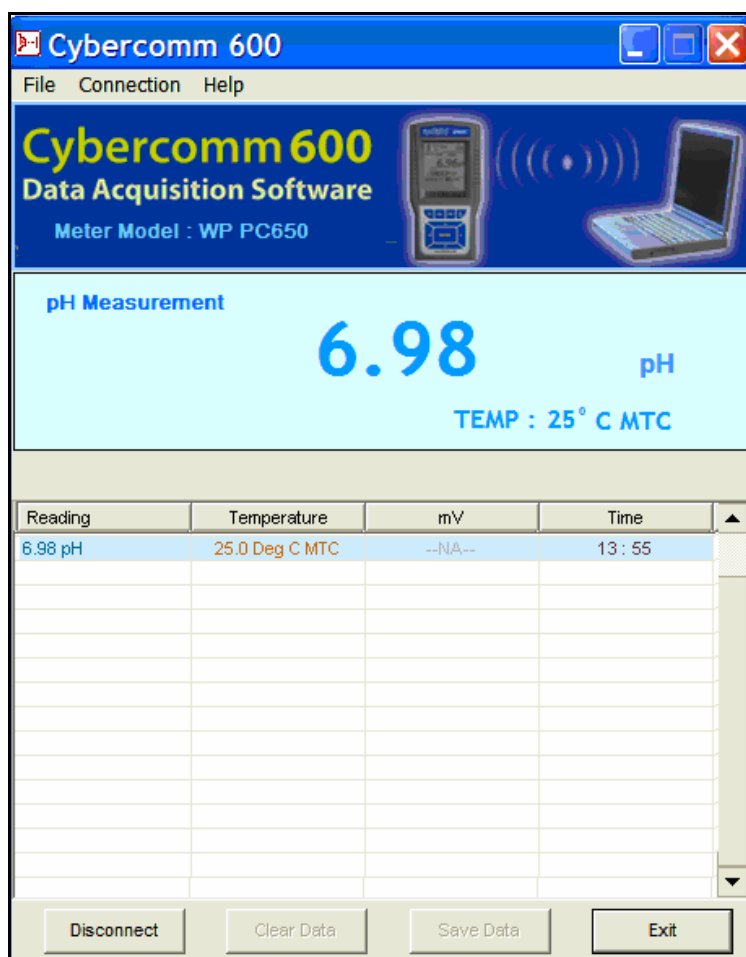

Figure 38 : Transfer Stored data to CyberComm
9. The CyberComm establishes connection with meter through IrDA and sends the data (Figure 38). The connection stops automatically once the data is transferred.